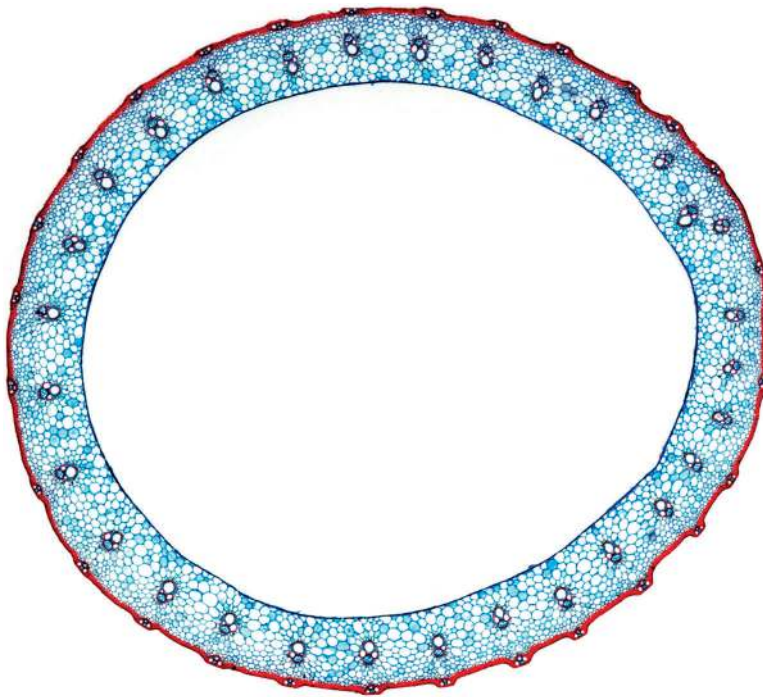
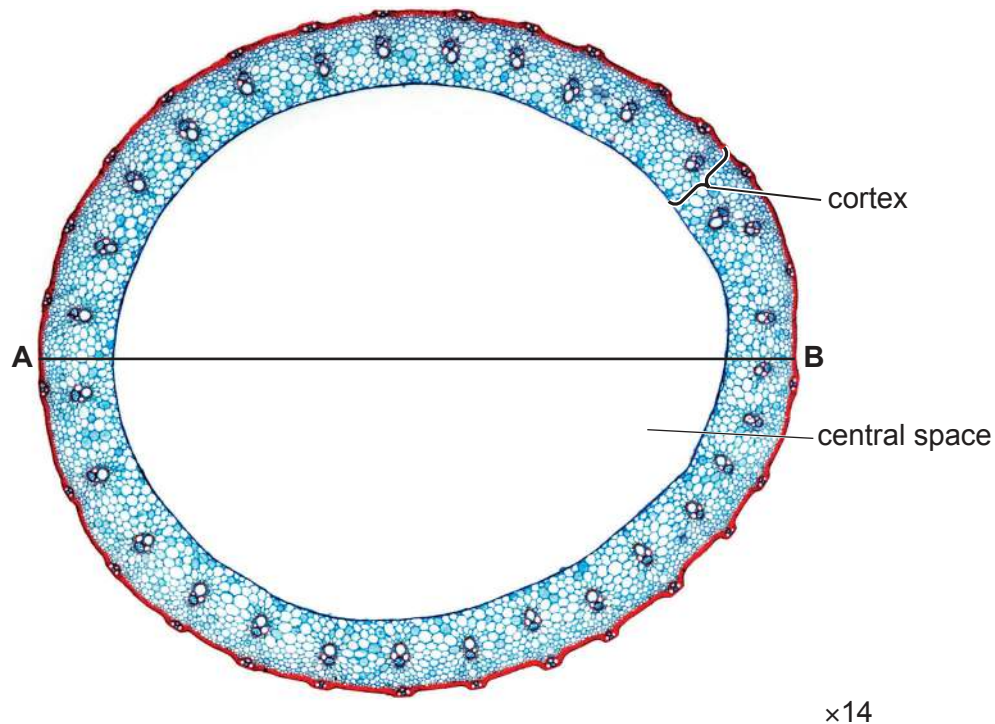

Figure 2.1
Figure 2.2
- (b) Figure 2.1 is a photomicrograph of a stained transverse section through a different species of plant.
Identify **three** observable differences, other than colour, between the section on **M1** and the section in Figure 2.1.
(c) Figure 2.2 is the same photomicrograph as that shown in Figure 2.1.
- (i) On Figure 2.2, use the line **A–B** to measure the diameter of the stem **and** the diameter of the central space.
The magnification of the photomicrograph in Figure 2.2 is $\times 14$.
- (iii) Suggest **one** advantage to the plant shown in Figure 2.2 of having a hollow stem.